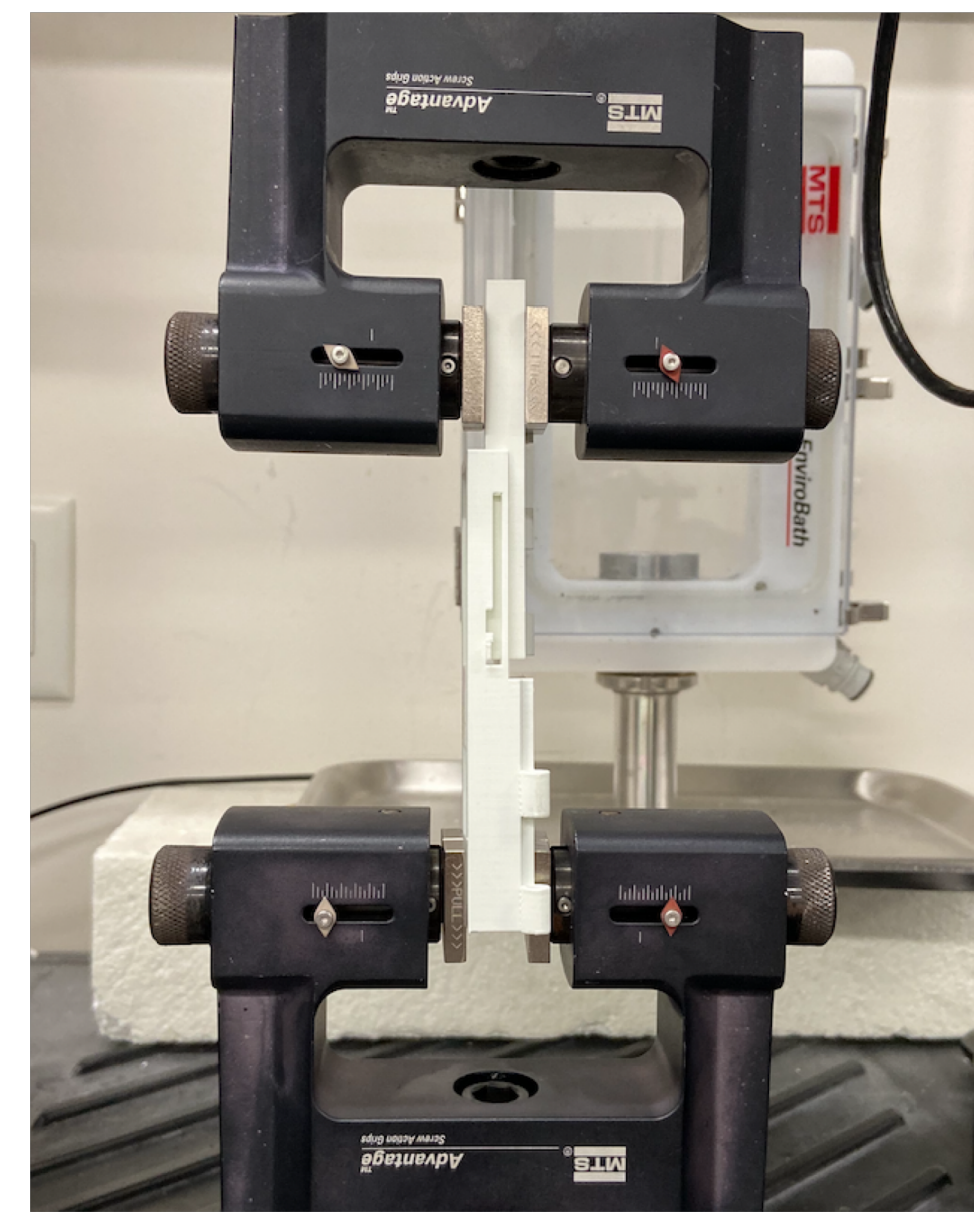

Figure 8: Testing final prototypes in MTS machine
- Tensile axial loading testing for both final prototypes (Fig. 8)